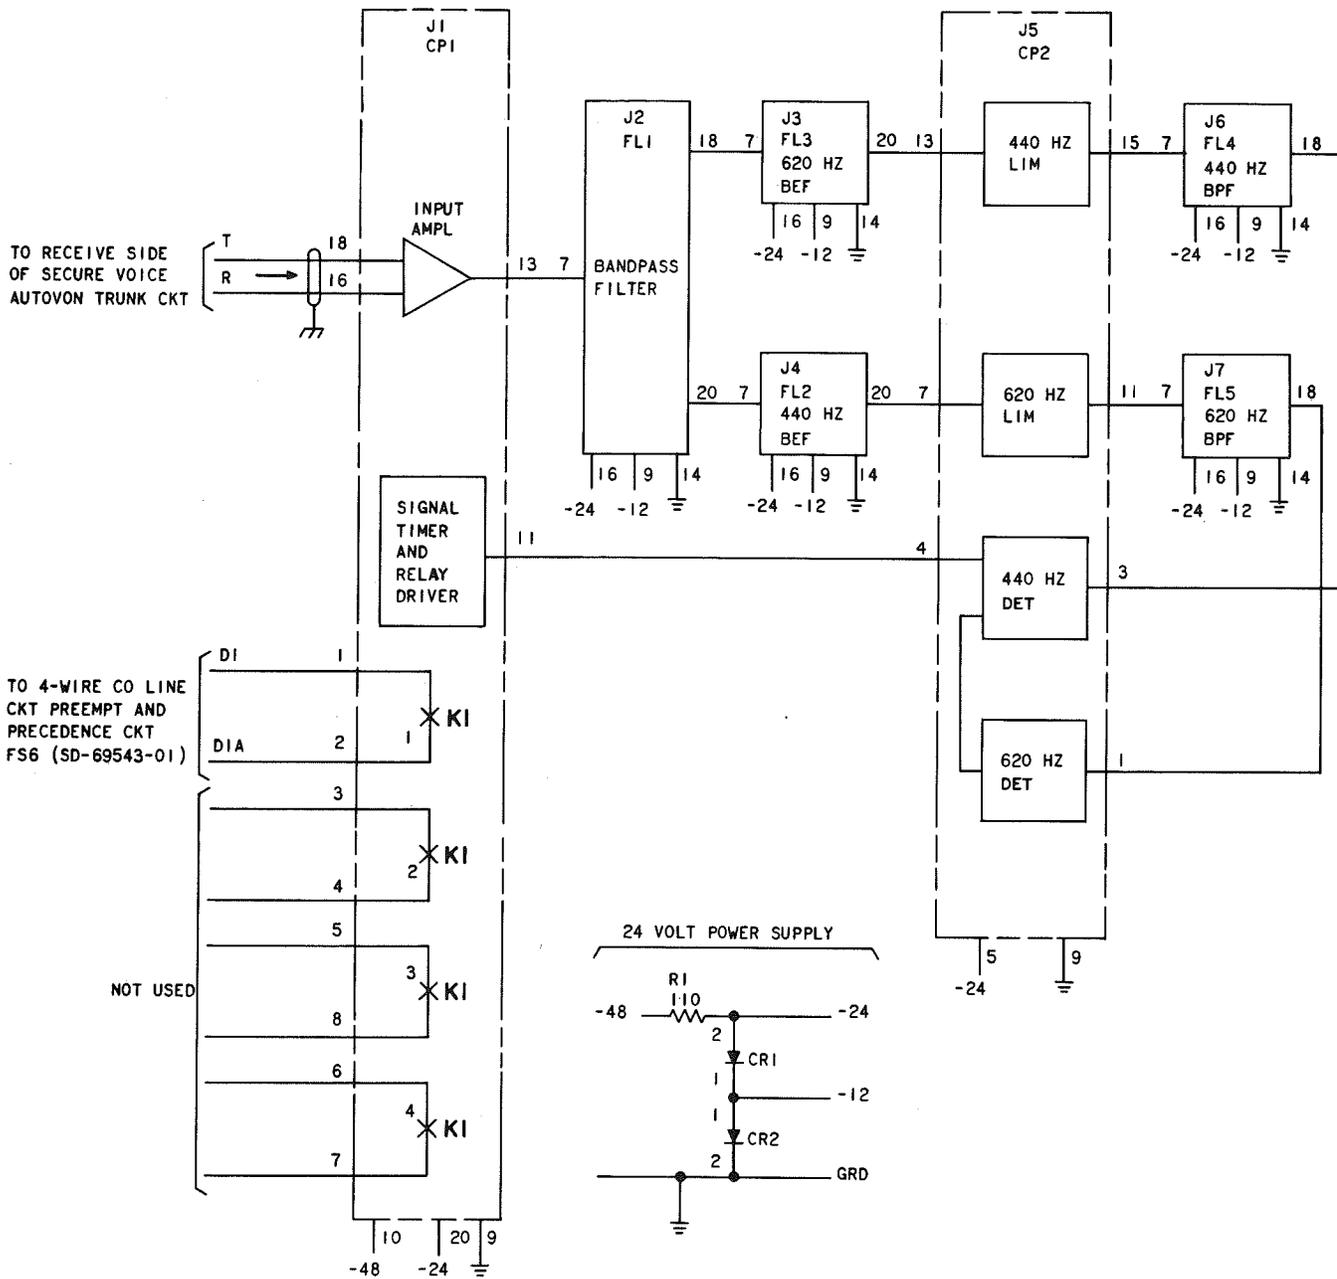

Fig. 1—Block Diagram of the AUTOVON Preemption Tone Detector
**1.01** The preemption tone detector (SD-1C289-01) will accept the 440/620 Hz AUTOVON preemption tone, and convert this tone to a contact closure. The contact closure transmits a ground to the 4-wire CO line circuit (SD-69543-01), to enable the preempt and precedence circuit (see Fig. 1).